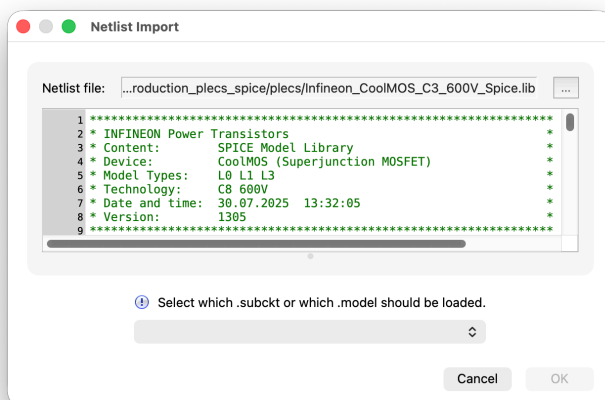

Figure 5: Netlist import wizard
- 8 You should see a window similar to the one shown in Fig. 5. In the lower section, a drop-down menu allows you to select the desired subcircuit from the ones available in the netlist library. From the drop-down menu select the **IPD60R600CMS_L0** component. The selected subcircuit and all the dependencies are now imported and embedded into the Netlist component.